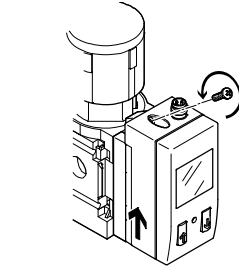
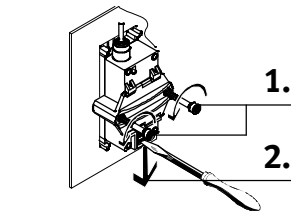

Fig. 25
Fig. 28
- Loosen the mountings → Fig. 25 to Fig. 28